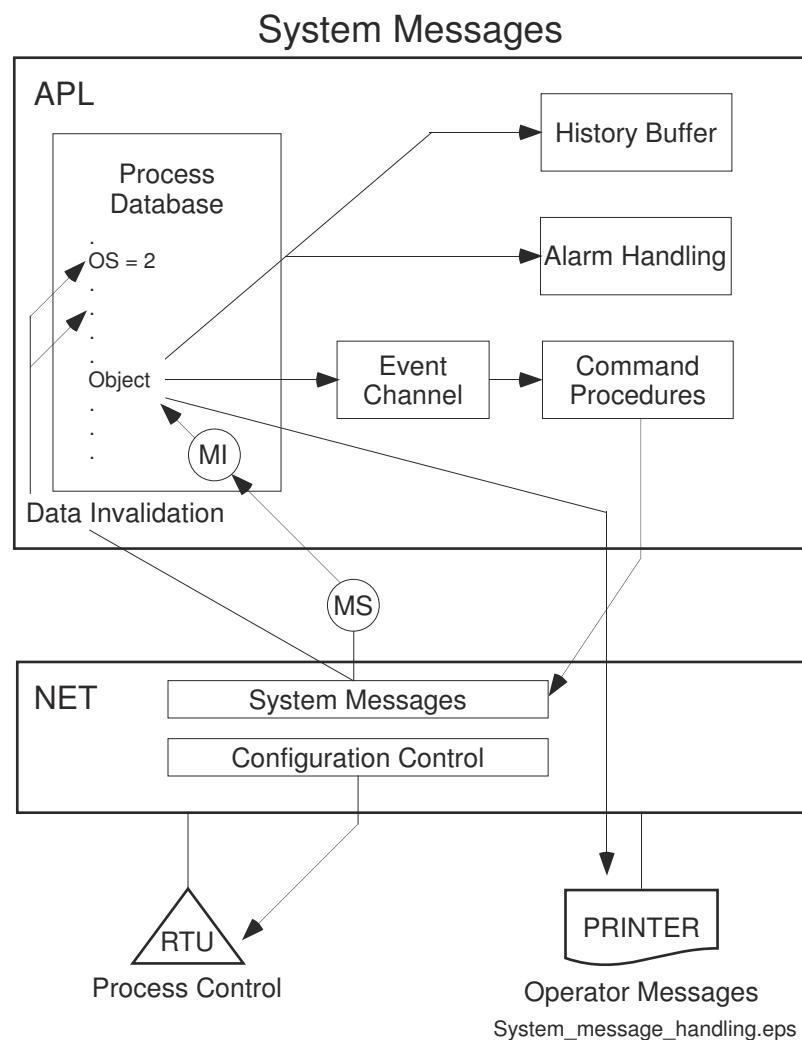

Figure 16: System message handling
1. Create a fictitious analog process object (AI) with the object address OA = the MI attribute below. The system message codes of the device will be registered as the object value of this process object.
2. Define the consequential operations by means of event, alarm and printout attributes, see Figure 16. For more information, see the System Configuration manual.